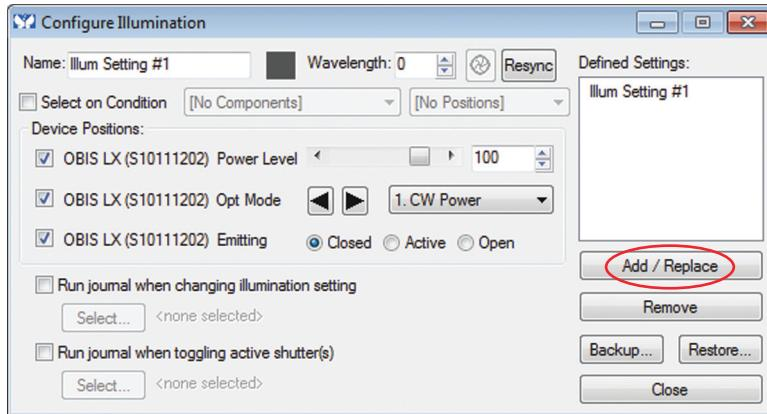

Figure VI-23. Define New Settings
4. Adjust the parameters (as needed), and click the Add / Replace button shown in Figure VI-23 to define the new settings.